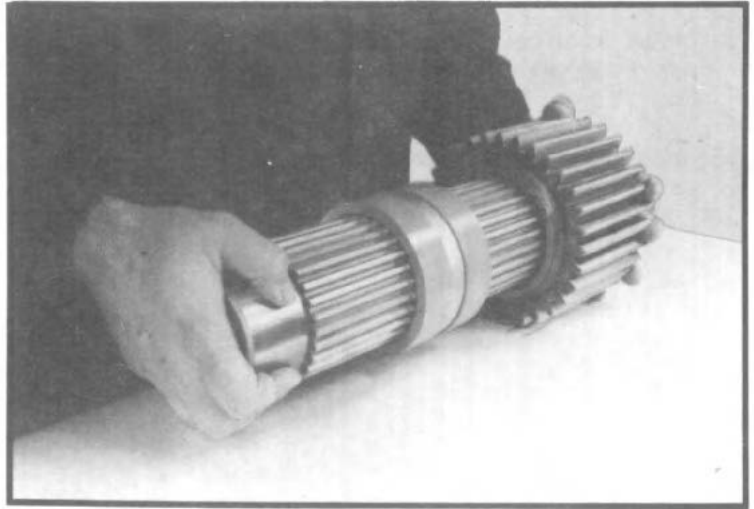

Fig. 82
4. Slide underdrive gear onto intermediate shaft. (See fig. 82.)